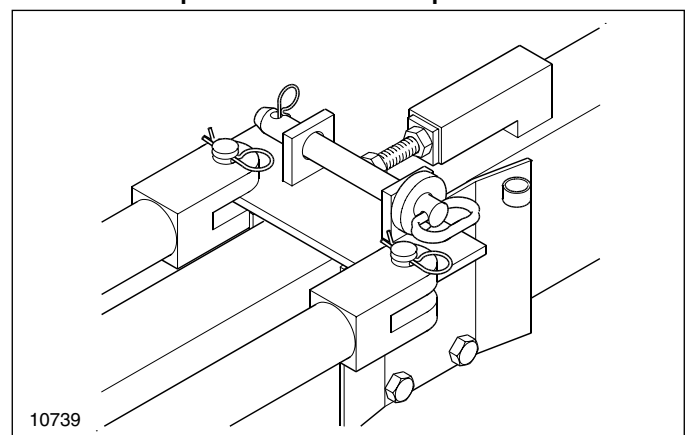

Figure 16
6. Place the pin in the pull-bar transport lock as shown in Figure 16, Pull-Bar Pin Locked in Transport Position. This must always be used when transporting the drill in the folded position.